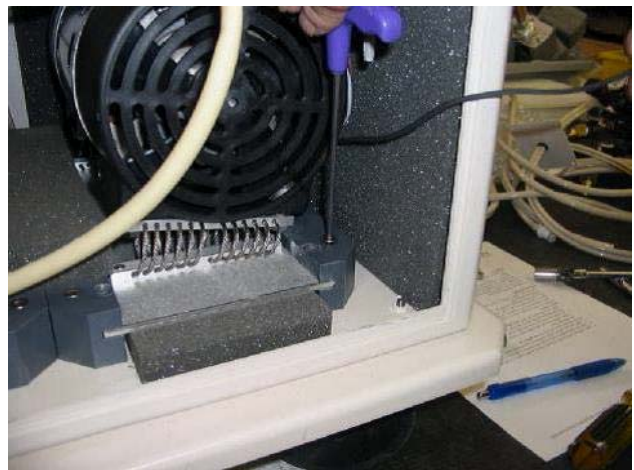

Fig. 5
13. Locate the six 10/32 socket screws on both sides of the compressor and remove using the hex head screwdriver. (Fig. 5)